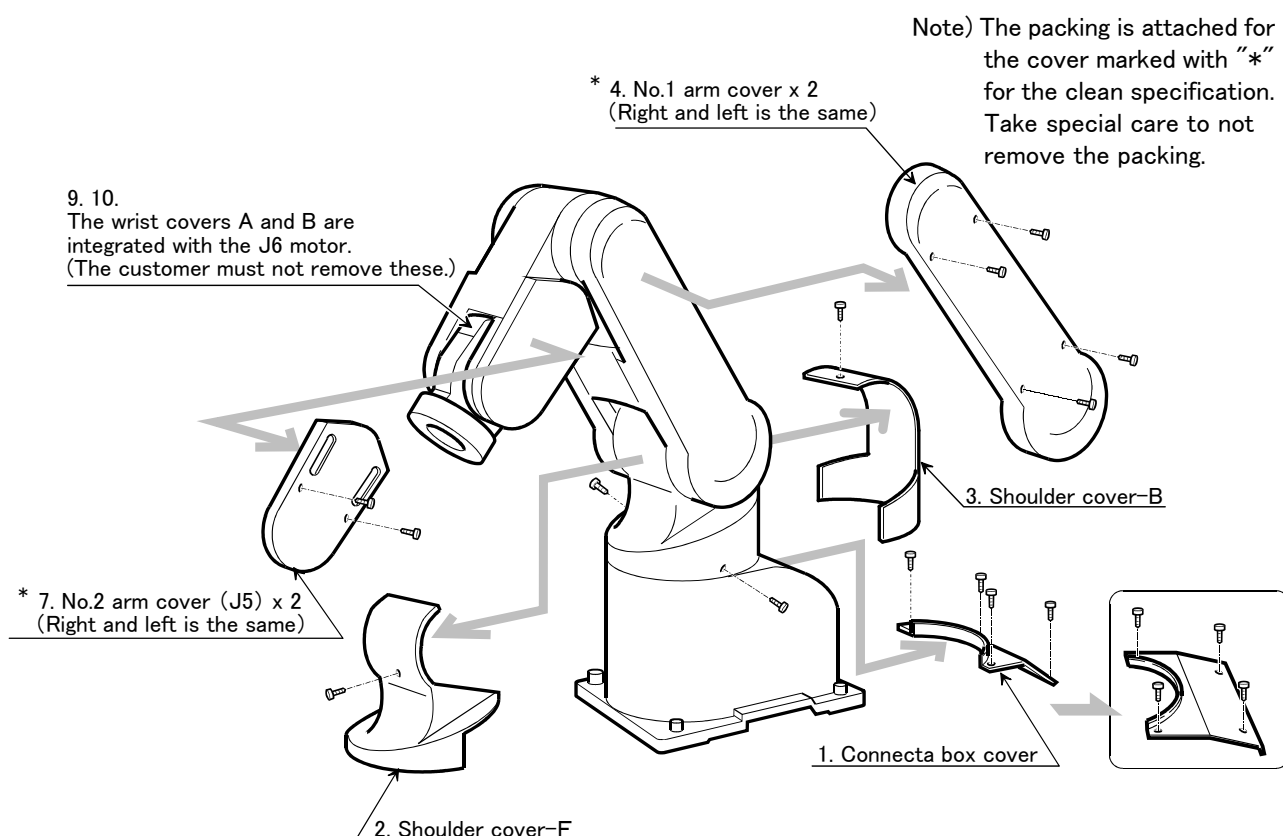
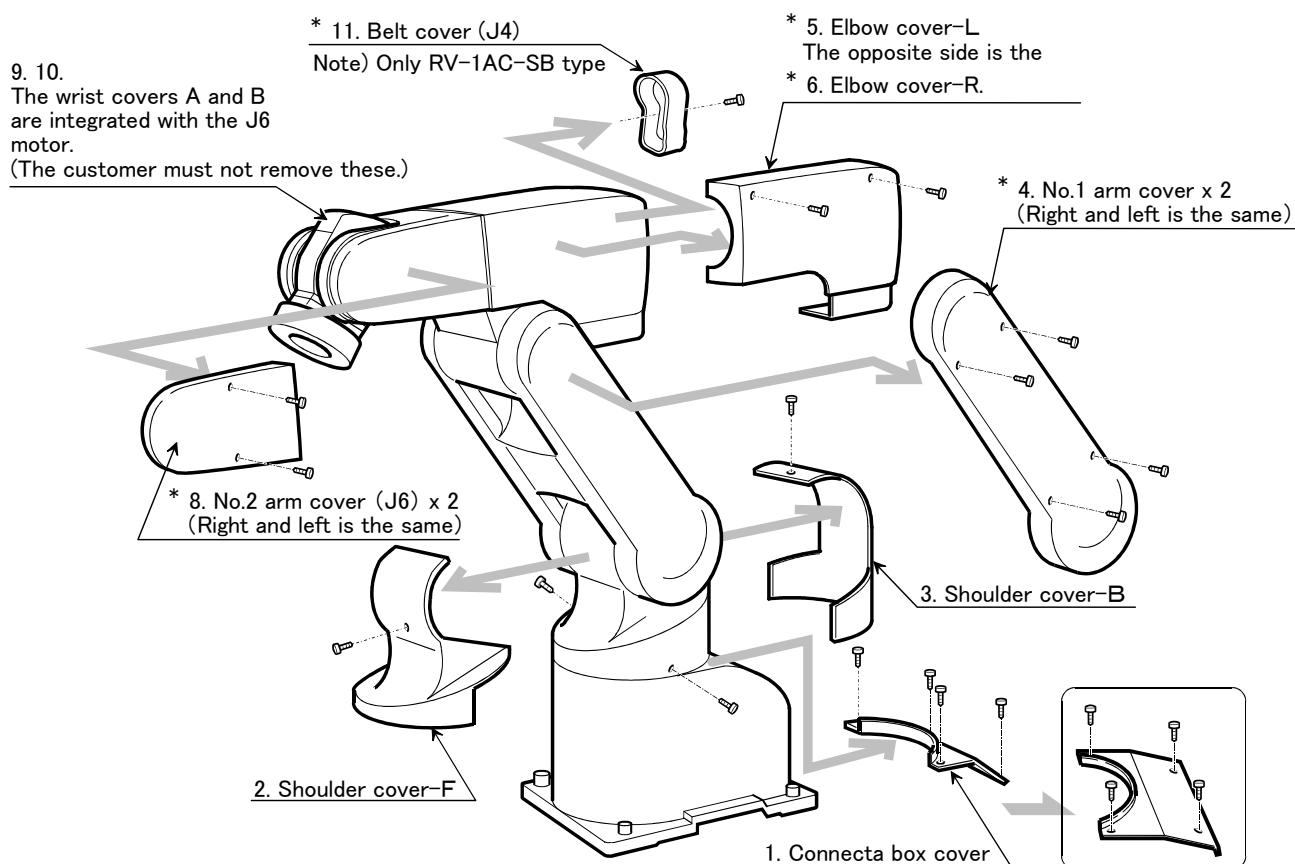

Fig.5-4 : Installing/removing the cover (5-axis type)
Fig.5-5 : Installing/removing the cover (6-axis type)
- (1) Refer to Fig. 5-4 when using the 5-axis type robot arm, and Fig. 5-5 when using the 6-axis type robot arm, and remove the cover.
- (2) The names of the covers are given in Table 5-3, and a list of the cover installation screws is given in Table 5-4.
- (3) There are some covers that may be difficult to remove due to the robot posture. In this case, change the robot posture with jog operation, and then remove the cover.
- (4) When attaching the cover after maintenance and inspection, use the detaching procedure in reverse.
The part Nos. and symbols in Table 5-3 and Table 5-4 correspond to Fig. 5-4 and Fig. 5-5.
- 2) Refer to Fig. 5-4 or Fig. 5-5, and remove the No. 1 arm cover.
- 2) Refer to Fig. 5-4 or Fig. 5-5, and remove the elbow covers L and R.